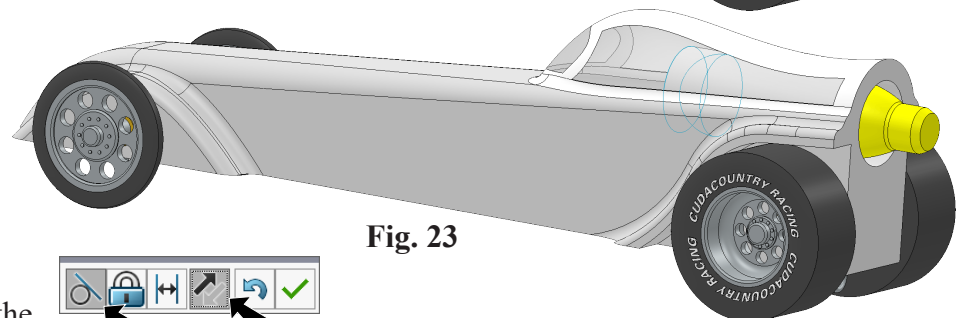

Fig. 23
Step 7. The cartridge should extend out rear of Body, Fig. 23. If in opposite direction, click **Flip Mate**